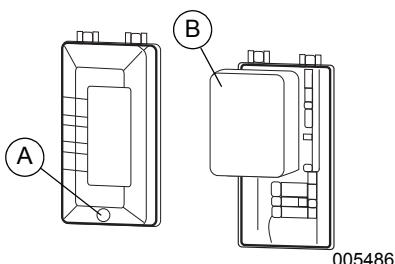

Figure 4-5. Air Filter Assembly
- Unscrew bolt (A) and remove air filter cover. See **Figure 4-5**.
- Wash filter (B) in soapy water. Squeeze dry in clean cloth (DO NOT TWIST).